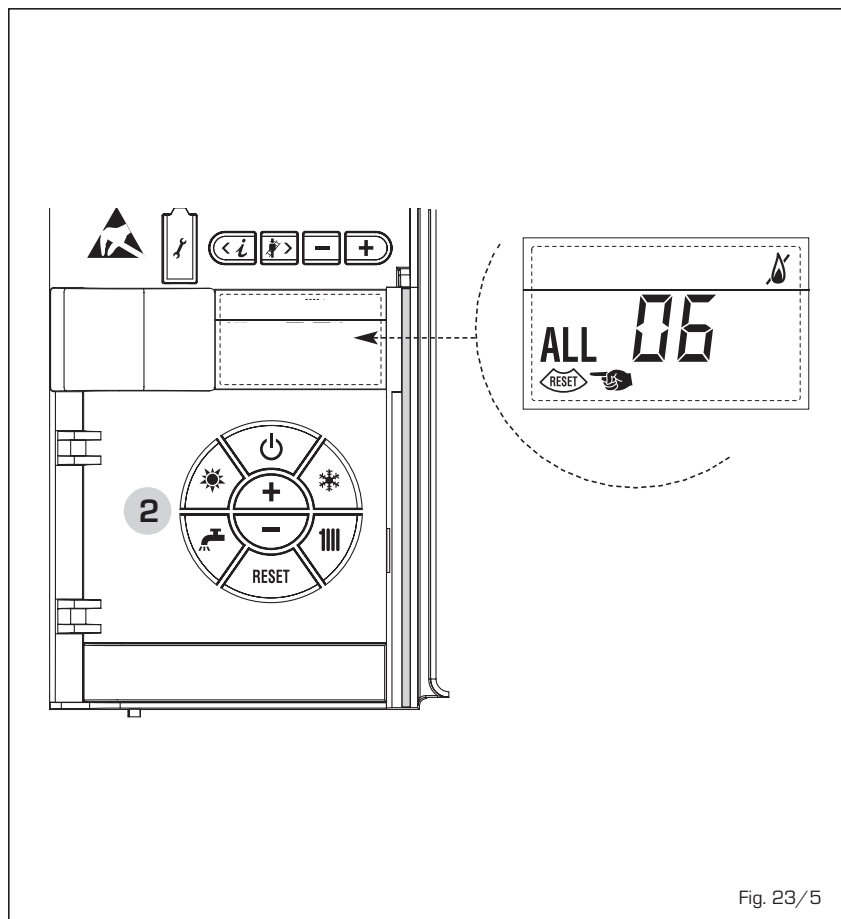

Fig. 23/5
- **SAFETY/LIMIT THERMOSTAT ANOMALY ALARM 07 (fig. 23/6)**